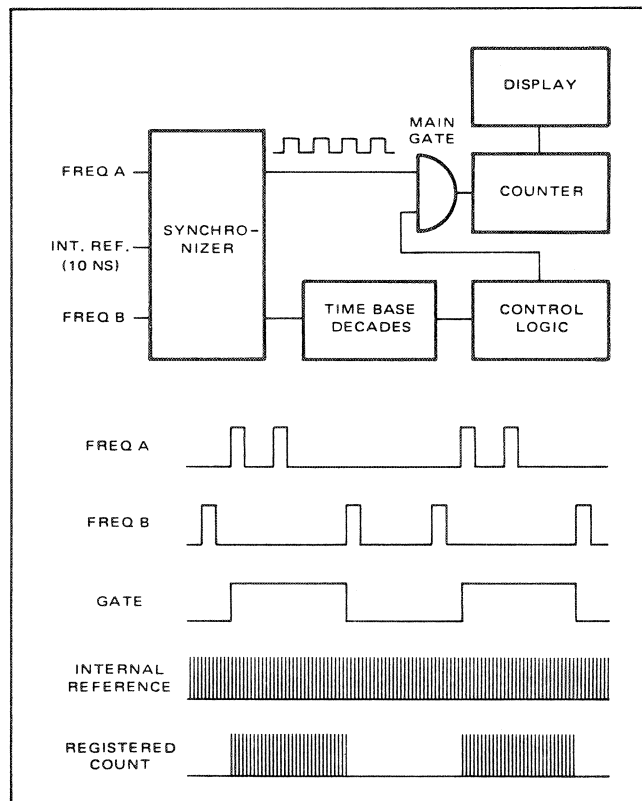

Figure 4.9 - Time Interval Average Mode
4.33 Similar to the Time Interval mode of operation, the Time Interval Average mode measures the count accumulated during a multiple of intervals (figure 4.9). It then averages the count by shifting the decimal point and displaying the result. This mode of operation makes it possible to achieve greater resolution and accuracy when measuring time intervals. The A trigger point can follow the B trigger point as close as 200 nanoseconds.